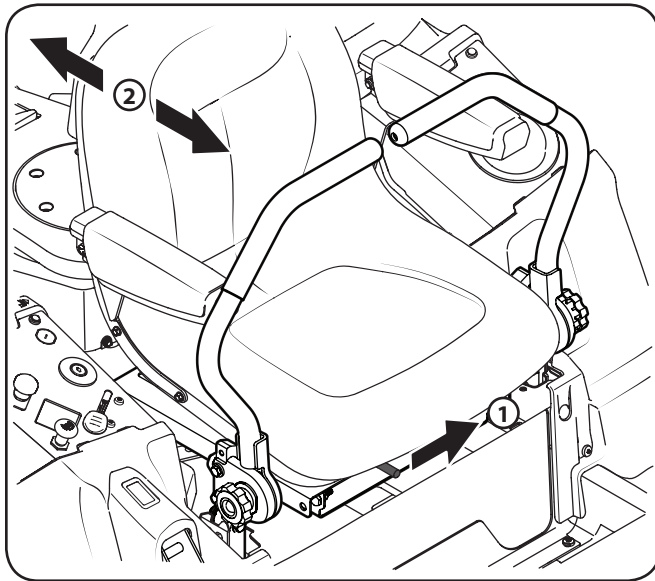

Figure 3-7
1. To adjust the position of the seat, push the seat adjustment lever to the left. See Figure 3-7.
2. Slide the seat forward or rearward to the desired position; then release the adjustment lever. Make sure seat is locked into position before operating the tractor. See Figure 3-7.